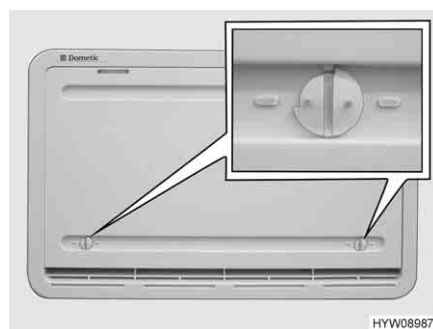

Fig. 224 Winter cover
If the refrigerator is to be operated at low external temperatures, the manufacturer recommends the use of a winter cover (Fig. 224) for the refrigerator ventilation grills.
- Open both locks (Fig. 224) (groove in horizontal position).